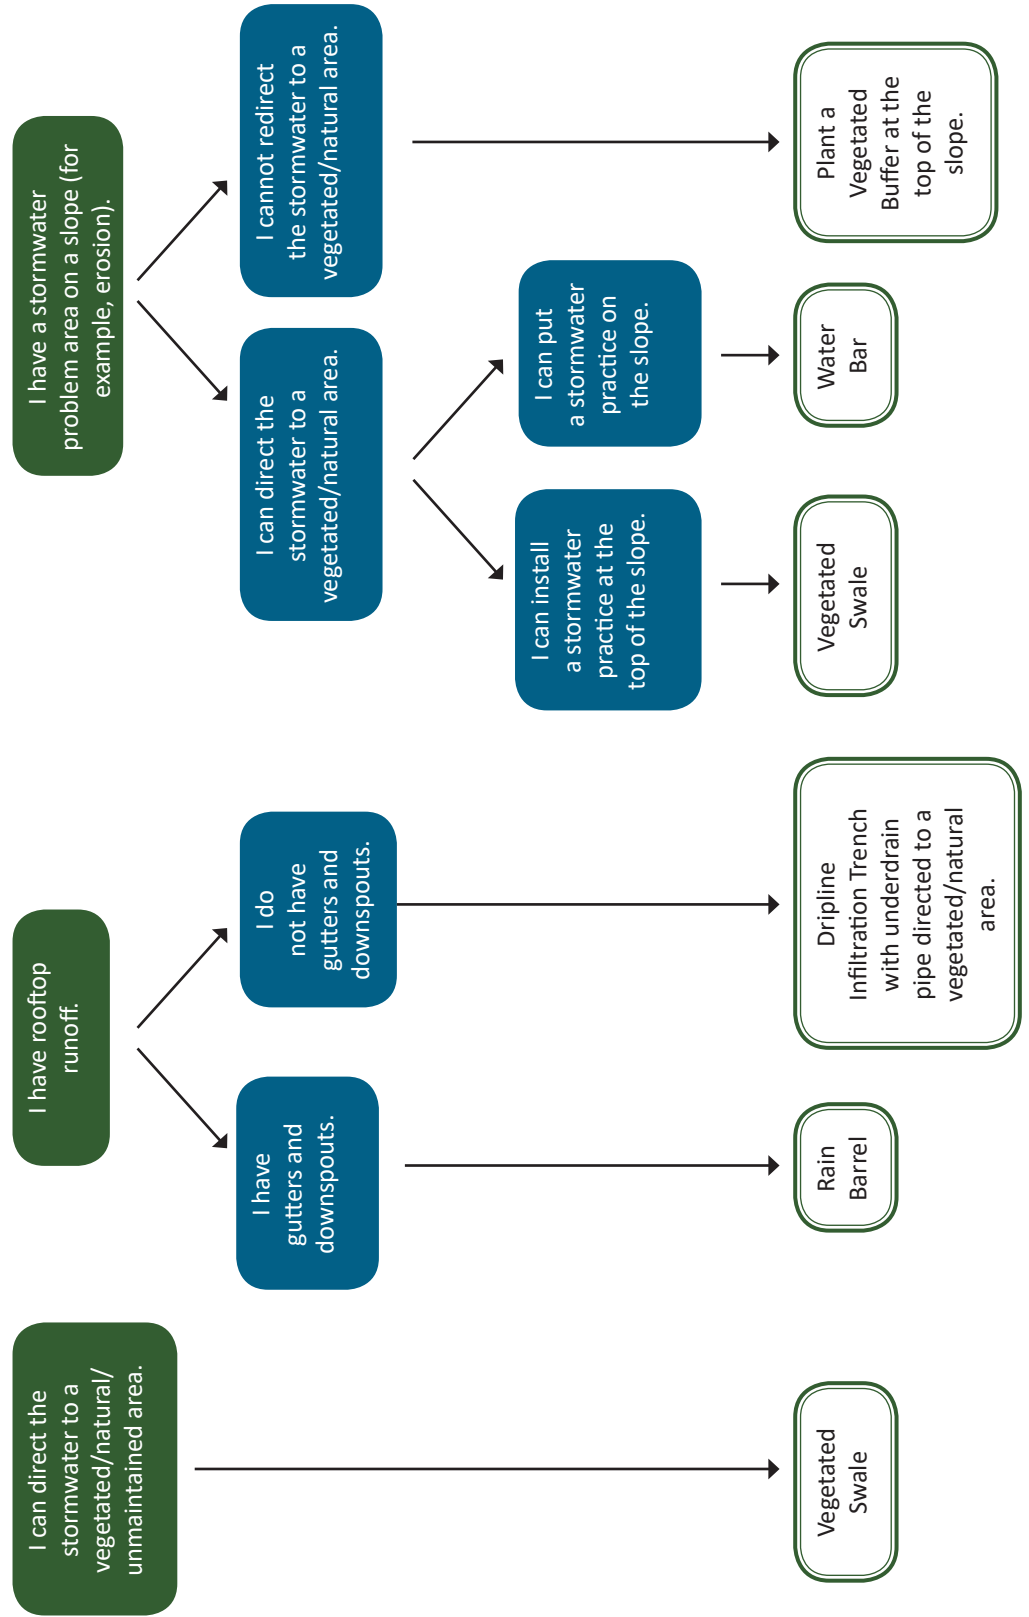

Figure 2 – An infiltration test is performed to determine how well the soil will absorb and infiltrate runoff.
- Place a ruler or yard stick in the hole. Note the water level and time. Multiply the change in water level by four to get the number of inches of infiltration per hour. A rate of at least $\frac{1}{2}$ -inch per hour indicates that the soil is appropriate for an infiltration practice. See Figure 2.
While the primary purpose of the practices in this guide is to address stormwater runoff and pollution, there is an opportunity to provide additional benefits to the ecosystem and greater community through thoughtful design. For example, incorporating native plants provides the added benefit of providing a food source for native pollinators. Using locally grown plants or locally sourced wood and stone products supports local businesses and reduces energy required for transportation. This concept of “stacking functions” is discussed in more detail in the box on the following page. Examples of incorporating additional ecosystem benefits to stormwater practice designs are shown in Figure 1 below and Figure 2 on the next page.